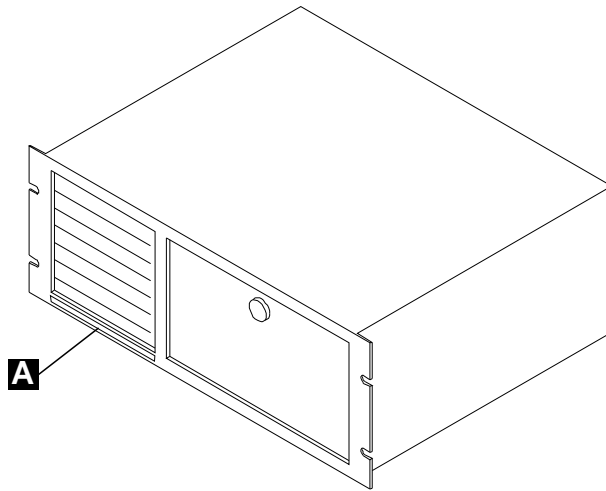

Figure 1-2. Installing Label on the Front Side of the Network Node Processor (7585)
2. \_\_\_\_ Using label (PN 0782966), **identify** your Network Node Processor-A or Network Node Processor-B by sticking the appropriate label **A** on the front and rear side of the unit (refer to Figure 1-2).